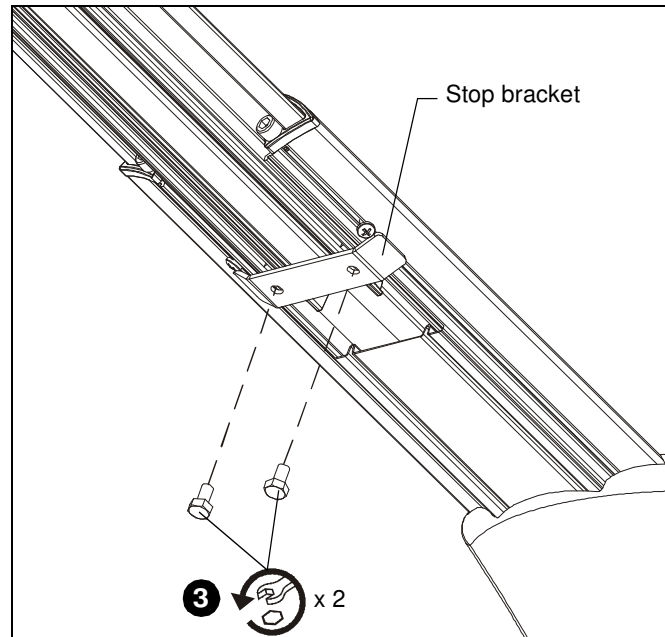

Figure 27
- Remove two bolts holding stop bracket in place on underside of short throw projector mount. (See Figure 27)